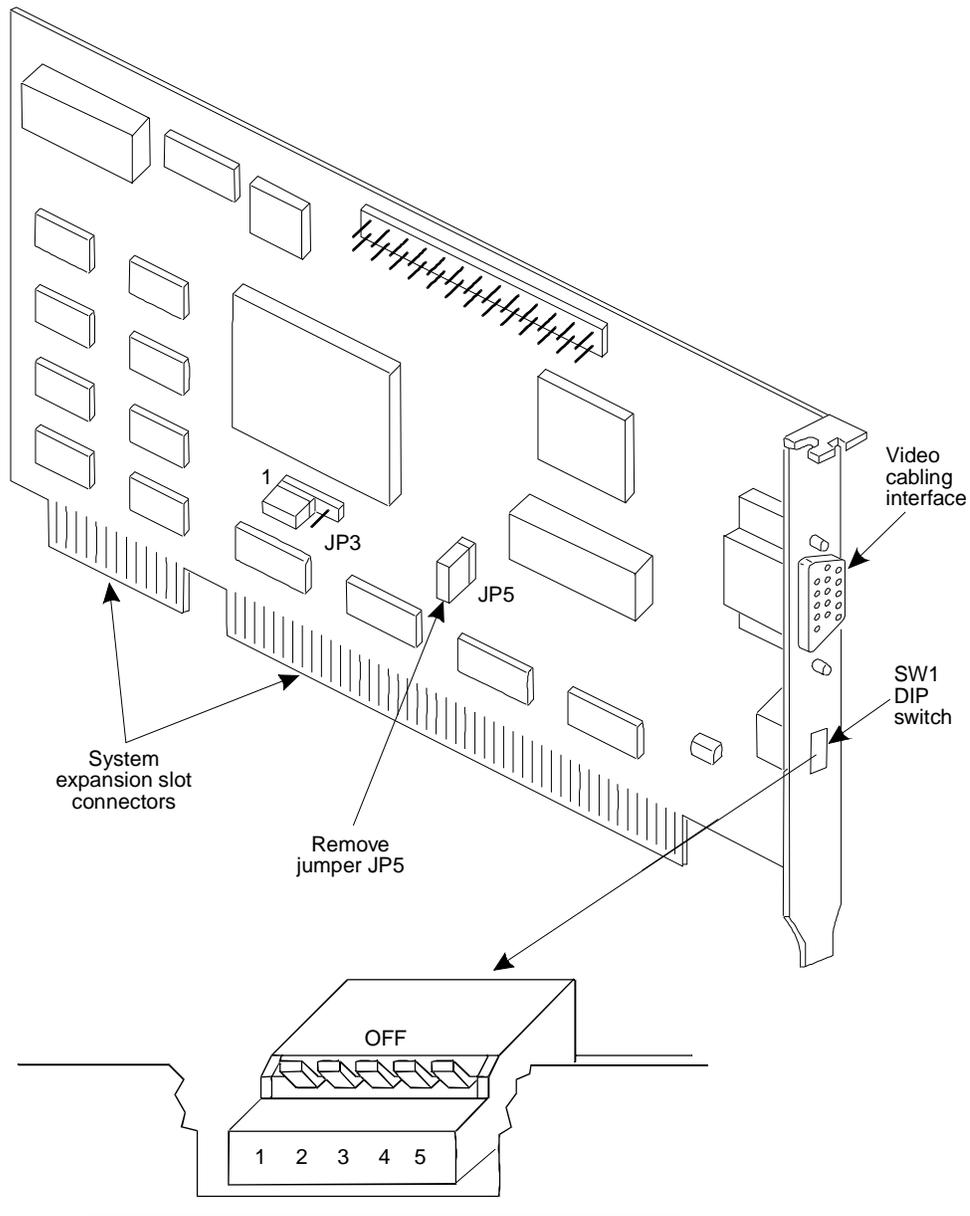

Figure 5-27. WDXLR831124 Video Controller Circuit Card and Switch Settings
- WDXLR831124 (Figure 5-27)
There are no jumpers on the WDXLR831124 video controller card. There are switches which must be set before the circuit card can be installed in the MAP/100 (Figure 5-27).